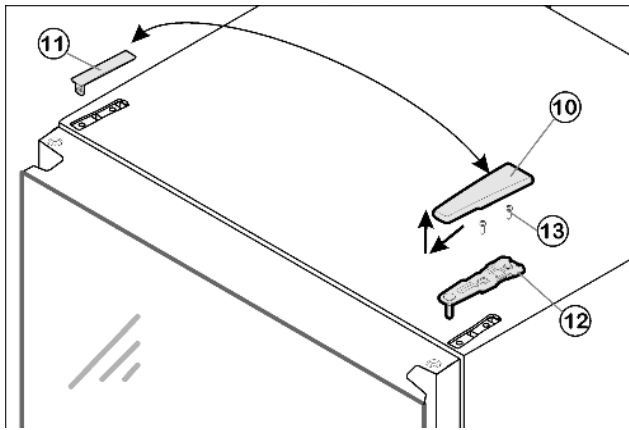

Fig. 8
- ▶ Pull off the cover *Fig. 8 (10)* forwards and upwards.
- ▶ Lift off the cover *Fig. 8 (11)*.
- ▶ Unscrew the upper turn hinge *Fig. 8 (12)* (2x Torx® 25) *Fig. 8 (13)* and lift it off.
- ▶ Insert the upper turn hinge Fig. 8 (12) in the door on the new hinge side.
- ▶ Screw the upper turn hinge **firmly** into place (**with 4 Nm**) (2xTorx® 25) *Fig. 8 (13)*. Possibly make preliminary holes with a bradawl or use a cordless screwdriver.
- ▶ Snap the cover *Fig. 8 (11)* and cover *Fig. 8 (10)* into place at the opposite side.